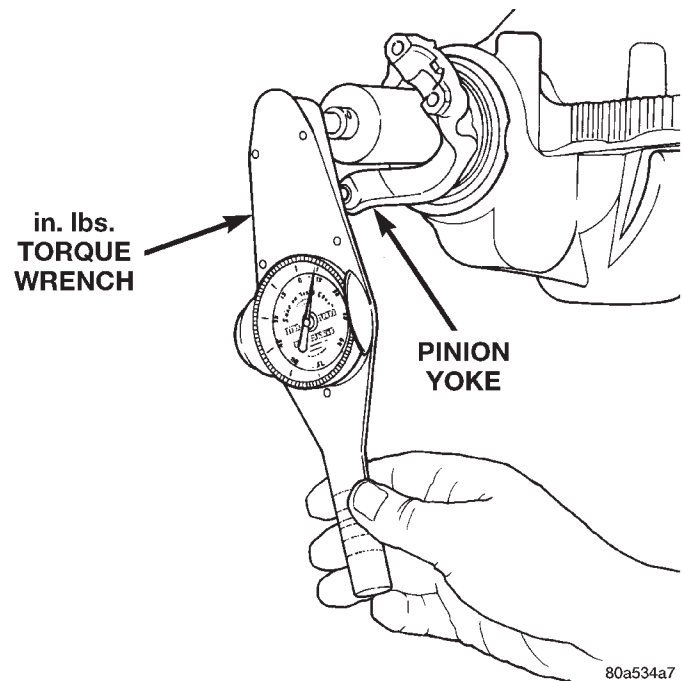

Fig. 47 Check Pinion Gear Rotation Torque-Typical
(11) Slowly tighten the nut in 6.8 N·m (5 ft. lb.) increments until the required rotating torque is achieved. Measure the rotating torque frequently to avoid over crushing the collapsible spacer (Fig. 47).
(12) Rotate the pinion a minimum of ten times. Verify that the pinion rotates smoothly. Check bearing rotating torque with an inch pound torque
wrench (Fig. 47). The torque necessary to rotate the pinion gear should be: